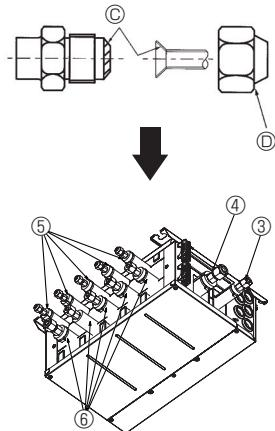

Fig. 7-2
- ⑤ Apply refrigeration oil to the entire (Fig. 7-2) surface of the flared seat.
- ⑥ Basically use flared nuts fitted to the body (commercially available flared nuts may crack).